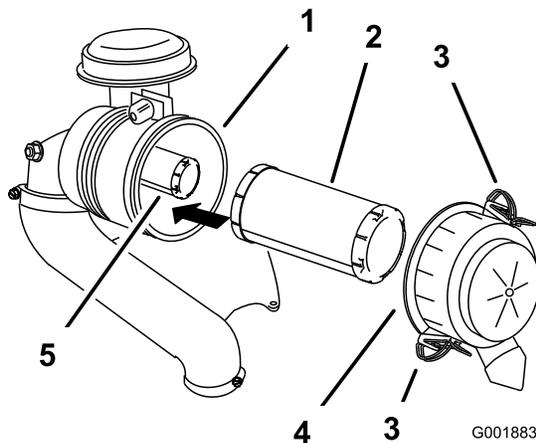

Figure 27
3. Release the latches on the air cleaner and pull the air-cleaner cover off the air-cleaner body (Figure 27).
5. Gently slide the primary filter out of the air-cleaner body (Figure 27).
2. If you are replacing the safety filter, carefully slide it into the filter body (Figure 27).
3. Carefully slide the primary filter over the safety filter (Figure 27).
4. Install the air-cleaner cover with the side indicated as **up** facing upward and secure the latches (Figure 27).